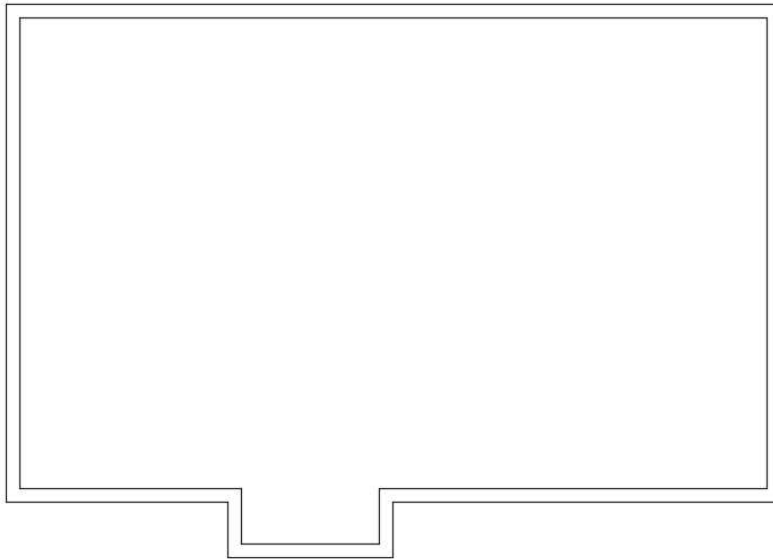

FIGURE 4.10: All line segments are now offset 6" (150 mm) to the inside.
5. Click in a blank area inside the cabin's perimeter. All segments of the polyline are offset 6" (150 mm) to the inside (see Figure 4.10).